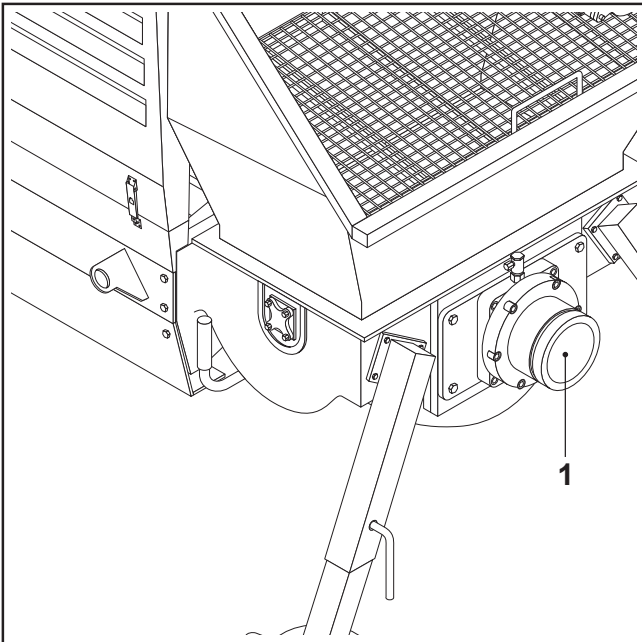

FIG.55
- Detach the piping between the clogging and the front delivery flange (FIG. 55-REF. 1).